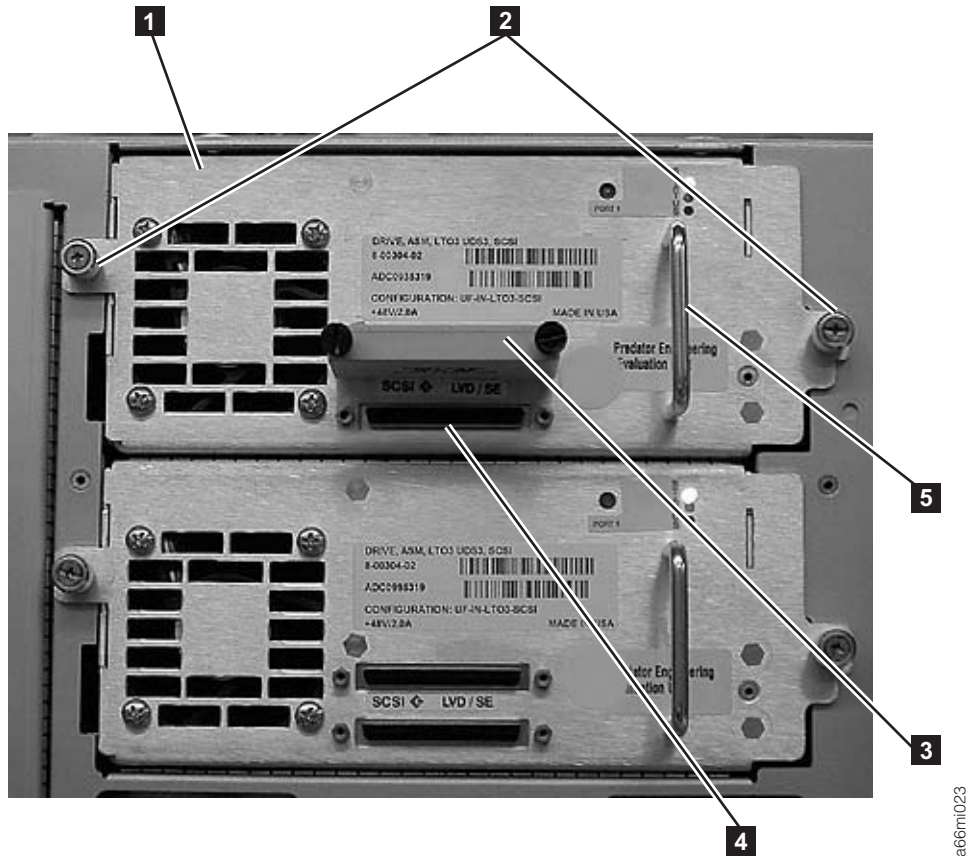
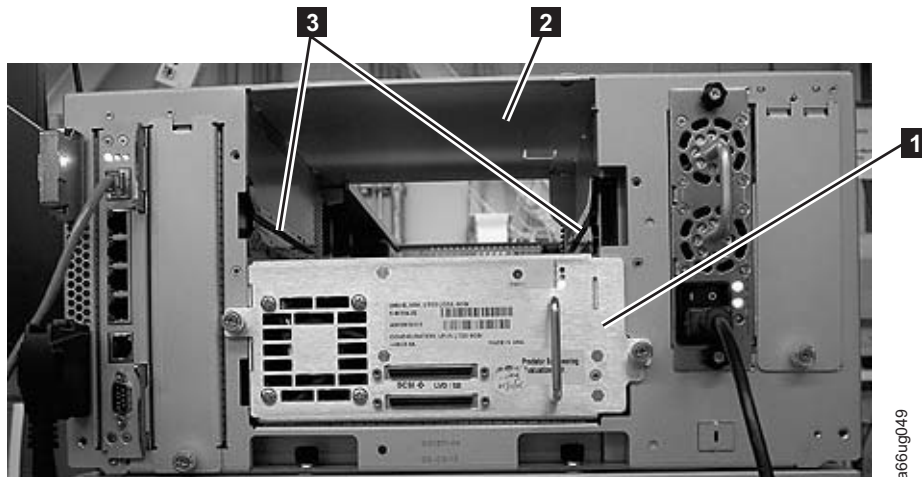

Figure 8-24. Drive sled (detail)
Figure 8-26. Drive sled slot
3. Loosen the two thumb screws (2 in Figure 8-24) that hold the drive in place by turning them counterclockwise.
4. Slide the drive out of the library module. Grasp the handle (5 in Figure 8-24) and slowly pull the drive toward you, while supporting the drive sled from underneath.
1. Align the drive sled with the guide rails and guide slots along the tracks (3 in Figure 8-26) in the open drive sled slot (2 in Figure 8-26). Grasp the handle (5 in Figure 8-24 on page 8-28) and slowly slide the drive sled into the CM, while supporting the drive sled from underneath.
2. Tighten the two thumb screws (2 in Figure 8-24 on page 8-28) that hold the drive sled in place by turning them clockwise.
- a. For a SCSI drive sled, plug the cable and terminator into the drive sled. Tighten the thumb screws that hold the SCSI cable (4 in Figure 8-24 on page 8-28 shows the SCSI receptacle) and terminator (3 in Figure 8-24 on page 8-28) in place by turning them clockwise.